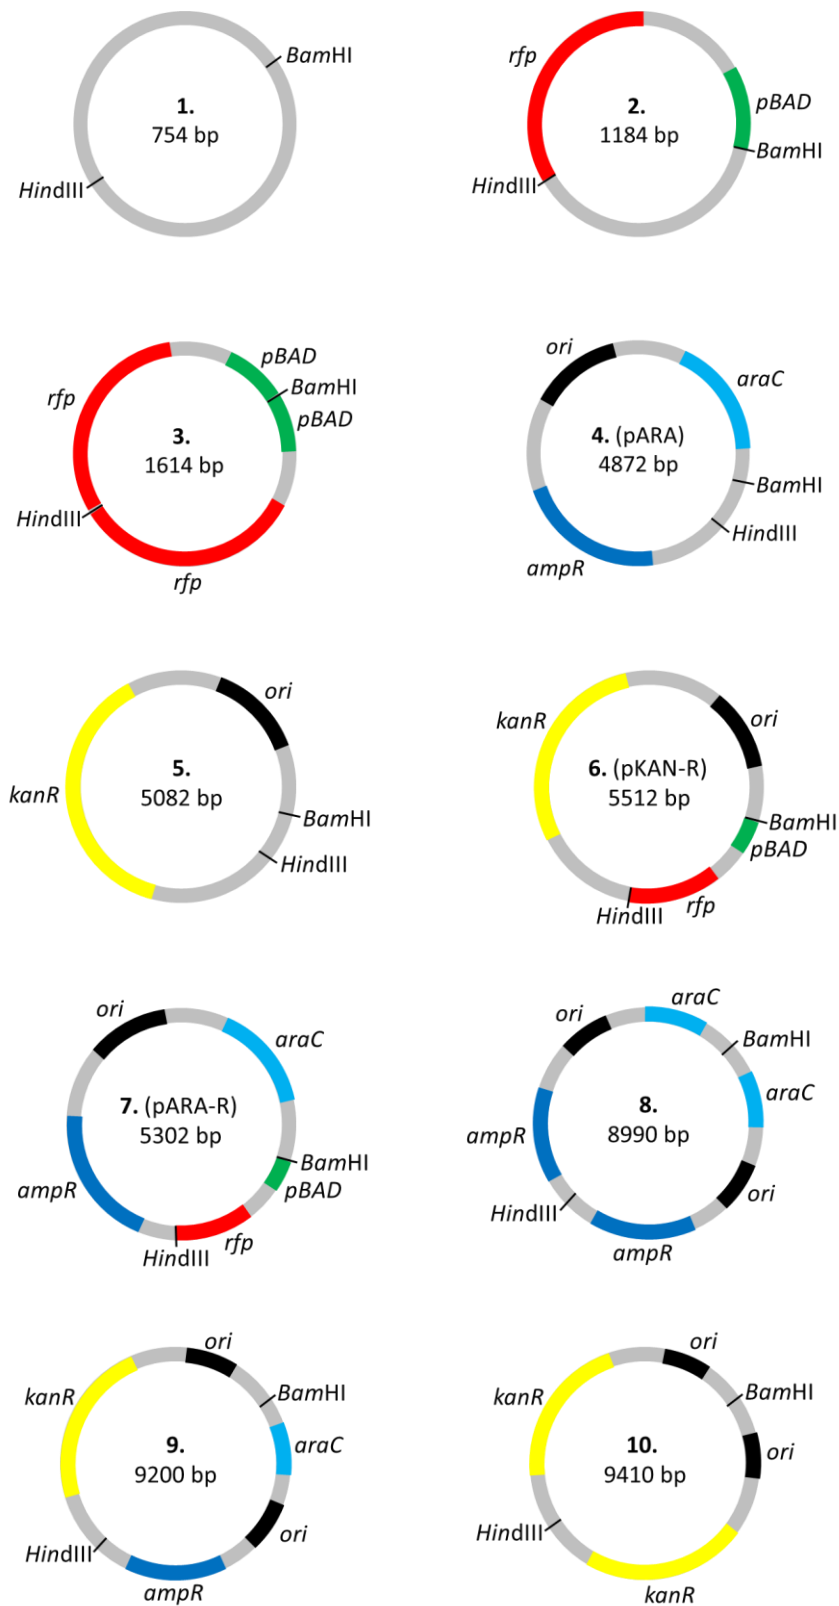

Figure 3.1 The 10 possible plasmids made by recombination.
Ten possible two-fragment plasmids can be made from the four fragments present in the restriction digest. The 4 fragments are shown in figure 2.1 of the teacher and technician guide. The possible 10 plasmids appear below in figure 3.1. Review students' work and present all the possible plasmids if students have not described them all.
LIG	(1) double BamHI – HindIII restriction fragment plasmid, 754 bp (2) pBAD-rfp & BamHI – HindIII restriction fragment plasmid, 1,184 bp (3) double pBAD-rfp plasmid, 1,614 bp (4) pARA, 4,872 bp (5) kanR & BamHI – HindIII restriction fragment plasmid, 5,082 bp (6) pARA-R, 5,302 bp (7) pKAN-R, 5,512 bp (8) double ampR-ori-araC plasmid, 8,990 bp (9) ampR-ori-araC & kanR plasmid, 9,200 bp (10) double kanR plasmid, 9,410 bp (For help visualising plasmids see figure 3.1 of the teacher guide.)